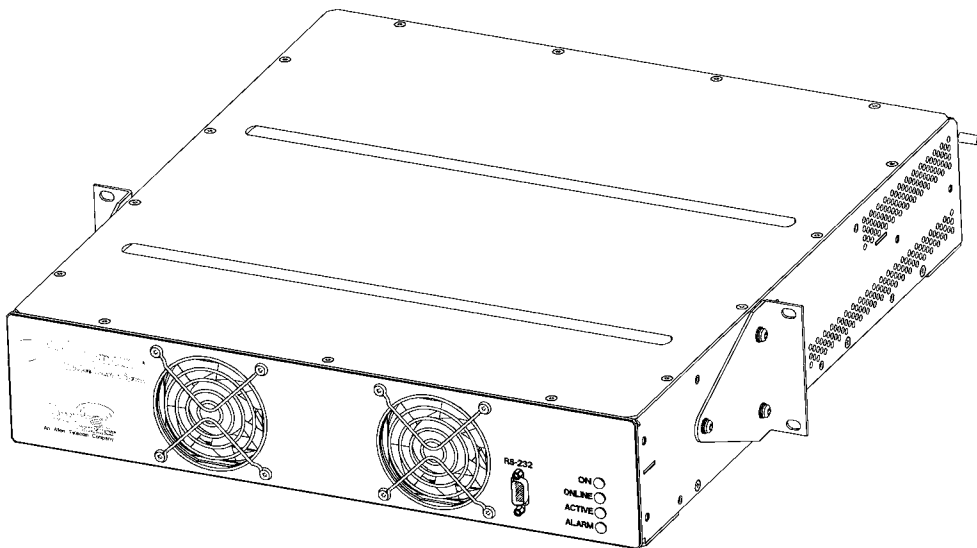
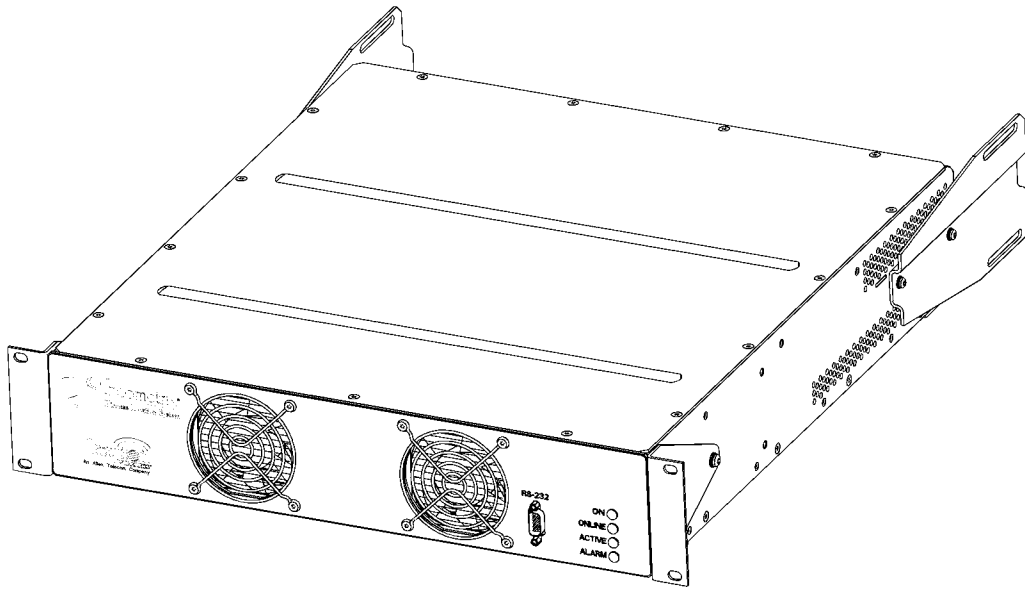

Figure 2-1 Center Mount Bracket Configuration
Figure 2-2 Front Mount Bracket Configuration
1. Attach the WLS mounting brackets to the WLS chassis using supplied #20 torx screws (or Phillips Screws depending on hardware provided) Figure 2-1 and Figure 2-2 show the mounting bracket configurations for center mount (relay style rack) and front mount (open frame rack), respectively.